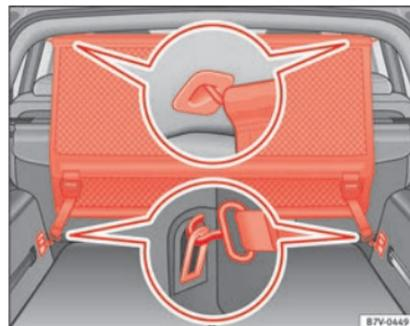

Fig. 167 In the luggage compartment: install the net partition behind the second row of seats.
- Hook in the net partition on the left-hand side roof support »» Fig. 167. To do this, guide the rod from up to down.
- Secure the net partition hooks into the straps in the front of the boot »» Fig. 167 then tighten the belts.
- Hook in the net partition on the front left-hand side roof support »» Fig. 167. To do this, guide the rod from up to down.
- Release the net partition hooks from the rings »» Fig. 167.
- Unhook the net partition on the right-hand side roof support »» Fig. 167 by pressing on the rod.